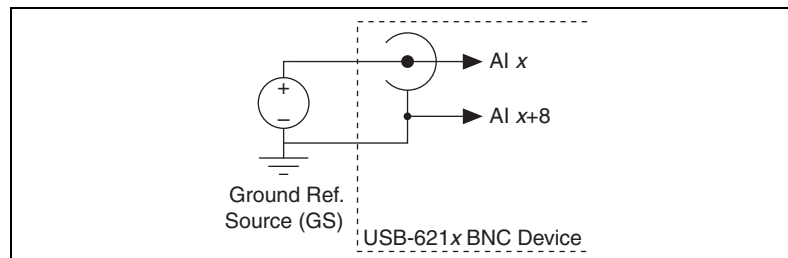

Figure A-8. Single-Ended Channels
- Single-Ended Mode**—For each BNC connector that you use for two single-ended channels, set the source type switch to the GS position. This setting disconnects the built-in ground reference resistor from the negative terminal of the BNC connector, allowing the connector to be used as a single-ended channel, as shown in Figure A-8.